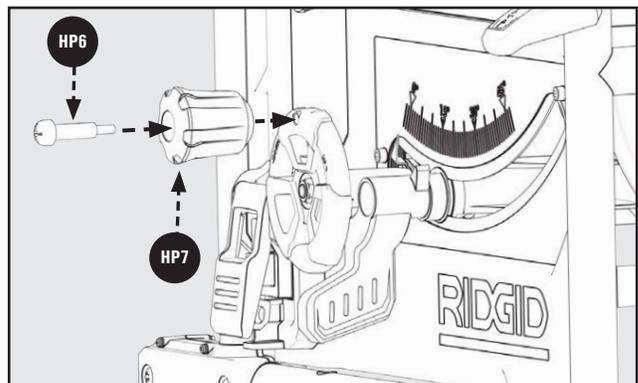

Figure 12
1. Insert Wheel Handle Shoulder Screw (HP6) into Height Adjustment Wheel Knob (HP7) as shown in Figure 12.